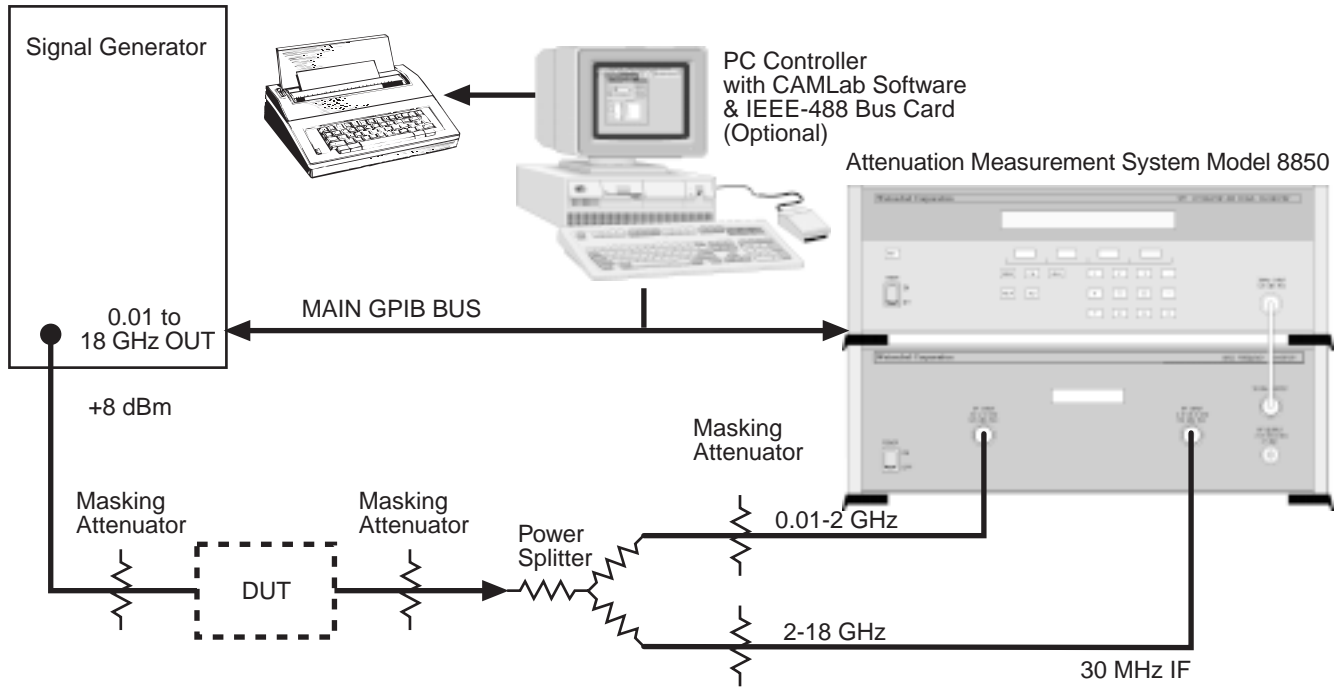

Figure 1. Typical System Configuration
- **SINGLE BAND OPERATION** – The system can be converted to a 0.01 to 18 GHz single port converter. This is accomplished by using the measurement accessory kit (P/N 187-4001) that is supplied as part of the system. The measurement accessory kit includes low SWR masking attenuators and a power divider to provide a measurement system as shown in Figure 1.
Attenuation Measurements (0.01-18 GHz, extendible to 40 GHz): Figure 1 depicts a system setup for performing component measurements across the 0.01-18 GHz frequency band without changing any connections on the Model 8850 front panel. This setup gives the user the widest measuring frequency range possible. Removing the Power Splitter and connecting the input signal directly to the the desired frequency input allows the user to increase the measurement systems dynamic range with the lowest possible SWR effects. This configuration can perform measurements in either the 0.01-2 GHz band or 2-18 GHz band depending on the Model 8850 front panel connection.